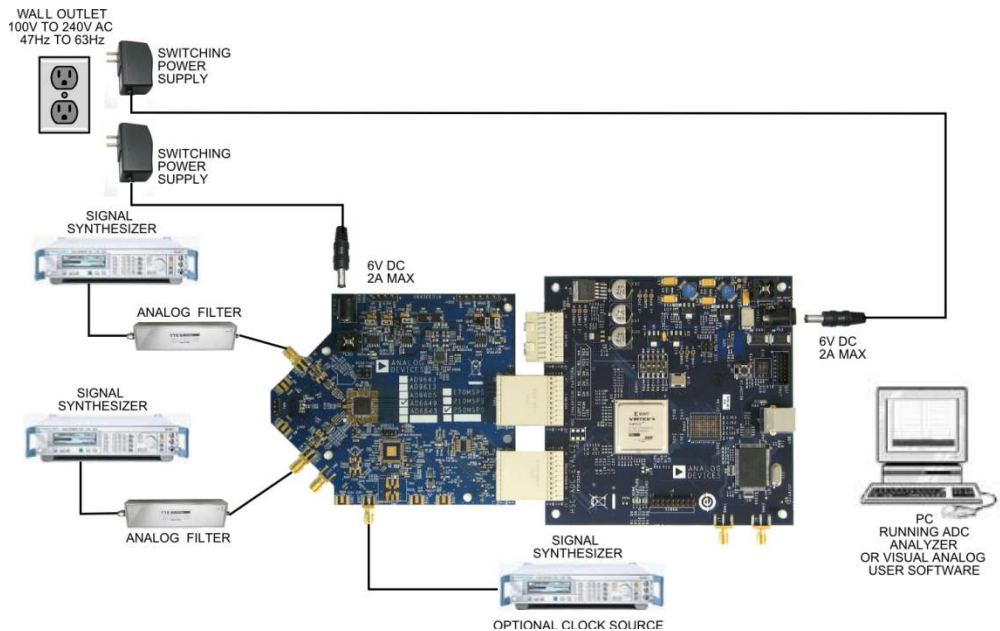

Figure 1: AD9643 Evaluation Board with HSC-ADC\_EVALCZ Data Capture Board
1. Connect the AD9643 evaluation board and the HSC-ADC-EVALCZ board together as shown in Figure 1.
9. Next open the SPI Controller software. If prompted for a configuration file, select the configuration file titled AD9643spiR03.cfg. If not, check the title bar of the window to see which configuration is loaded. If necessary, choose “Cfg Open” from the “File” menu and select one of the configuration files named above. Note that the CHIP ID(1) field may be filled whether the correct SPI Controller configuration file is loaded or not.
11. Set the DCO Clk Delay Enable checkbox in the FLEXOUTPUT DELAY(17) panel on the ADCBase0 tab as shown below. In addition, set the DCO Clk Delay register to the ‘600ps